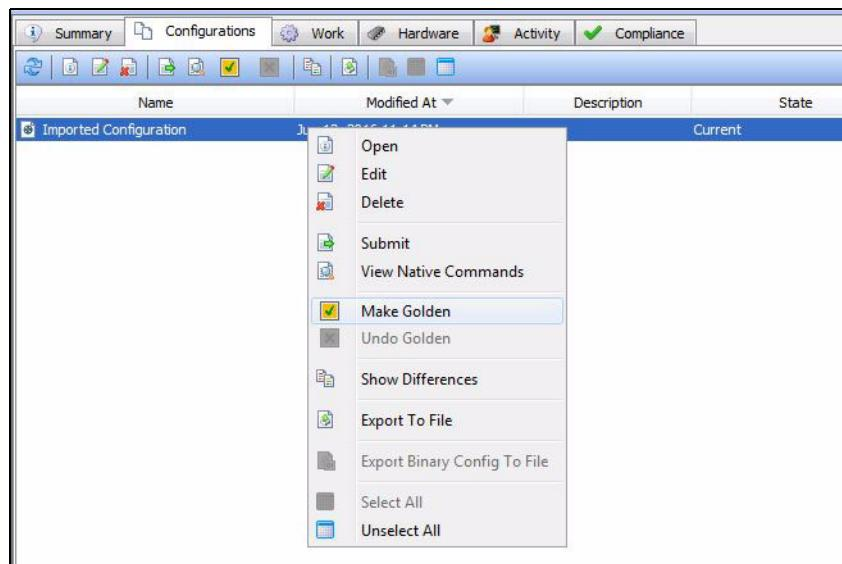

Figure 4-10 Setting a Golden configuration
- In the same realm that you created the RAD, FTP resource, and Authentication resource, create a network resource with the same name as shown in Figure 4-10.
- Select the current configuration and set it as a “golden” configuration by right-clicking the configuration and selecting **Make Golden** from the pop-up menu, as shown in Figure 4-10.